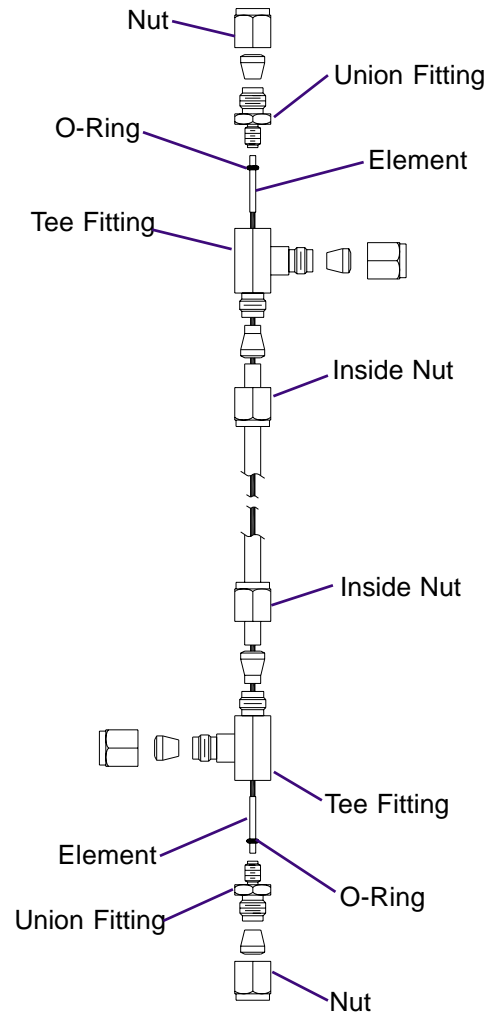

Figure 3
1. Hold tee fitting with 7/16 wrench and loosen union connector fitting with 5/8 wrench (refer to Figure 3).